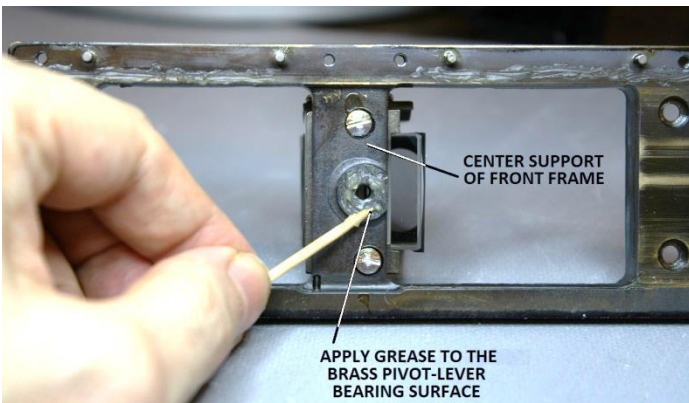

Figure 88 – Apply grease to pivot-lever bearing surface of frame
Apply a light coating of a suitable grease (item 5 of Appendix 1) to the pivot-lever bearing surface on the center support of the front frame (see Figure 88).